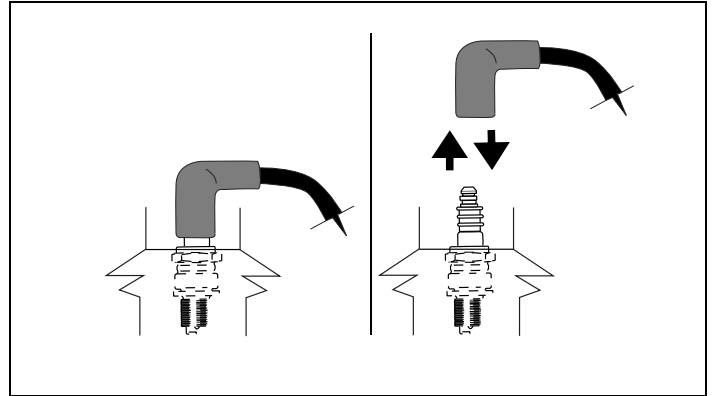

Figure 53. Disconnecting/Connecting Spark Plug
1. Carefully disconnect spark plug wire and keep it away from spark plug. See Figures 53 and 54.
9. Carefully disconnect spark plug wire from grounding post, if provided. See Figure 53.